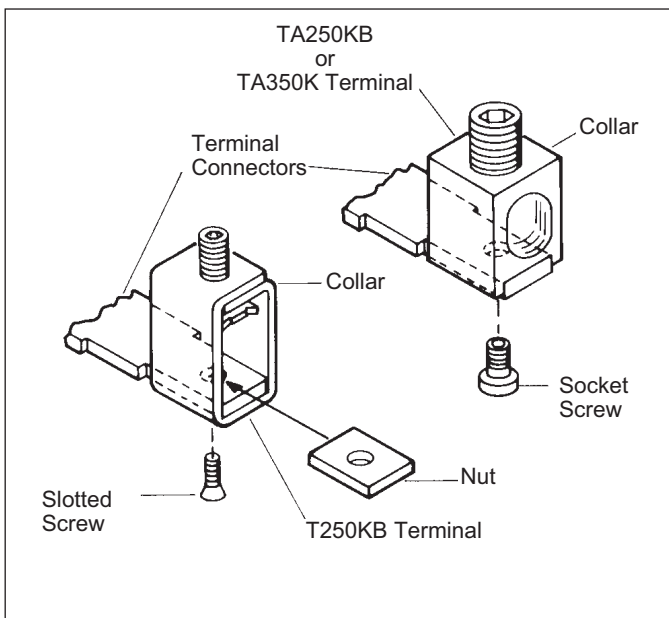

Figure 2-3 Terminal Installation
- 2.5. If not already installed, mount terminal as shown in Figure 2-3. When using terminal (Catalog No. T250KB), secure the terminal to the circuit breaker using screw and nut. Torque to 6-8 lb-in (1 N-m). When using terminal (Catalog No. TA250KB), secure the terminal to the circuit breaker using 5/32-inch hex key. Torque to 6-8 lb-ft (8-11 N-m). When using terminal (Catalog No. TA350K), secure the terminal to the circuit breaker using 1/4-inch hex key. Torque to 6-8 lb-ft (8-11 N-m).